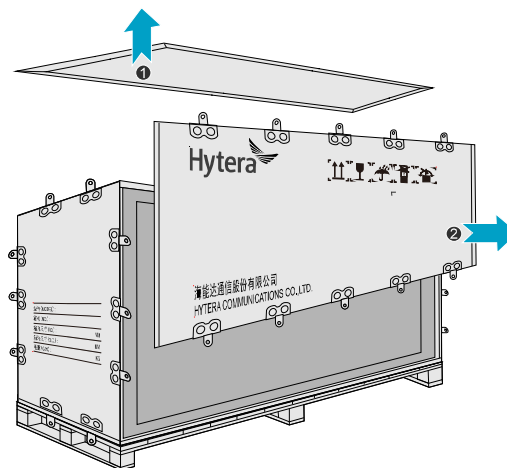

Figure 3-3 Removing the Wooden Cover and Side Wooden Plate
Step 4 Remove the cover (see the up arrow in Figure 3-3). If you see a cabinet, proceed to the next step directly. If you see a carton, take it out from the wooden case and unpack as instructed in “Unpacking the Carton” before the next step.
Step 5 Pull the tongue piece straight on the side wooden plate and remove the plate. See the right arrow in Figure 3-3.